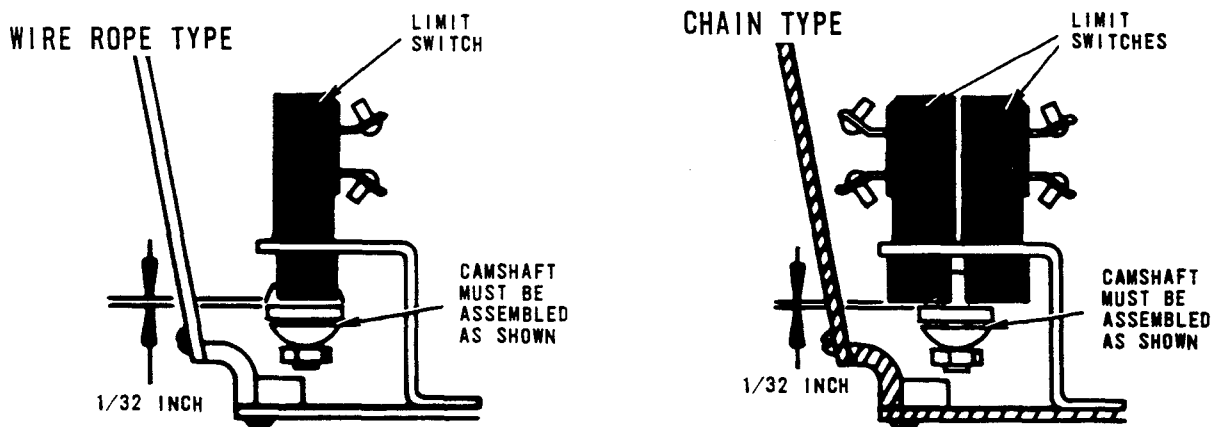

FIGURE 5.
- (f) The wire rope units are equipped with a plugging upper limit switch and an anti-rewind lower limit switch. To check the upper plugging limit switch lower the bottom block to a position about eight (8) feet below the hoist. Depress the "UP" button and while the bottom block is raising, lift the limit switch paddle with your hand. When the paddle is lifted from $3/16$ inch to $1/4$ inch the hoist will cutoff. Lift the paddle further and the unit will instantaneously lower the bottom block. If for some reason this switch does not operate properly, the adjusting screw on the camshaft may be adjusted as shown in Figure 5 below. To check the lower anti-rewind switch, position the load hook approximately four (4) feet below the hoist. Depress the "DOWN" button and while the load hook lowers depress the limit switch lever. The motor should stop. This is a snap action switch and no adjustment should be needed.
- (g) All link chain units are equipped with both upper and lower plugging type switches. To check the upper limit, lower the load hook to a position approximately six (6) feet from the bottom of the hoist. Depress the "UP" button and while the hook is raising lift the limit